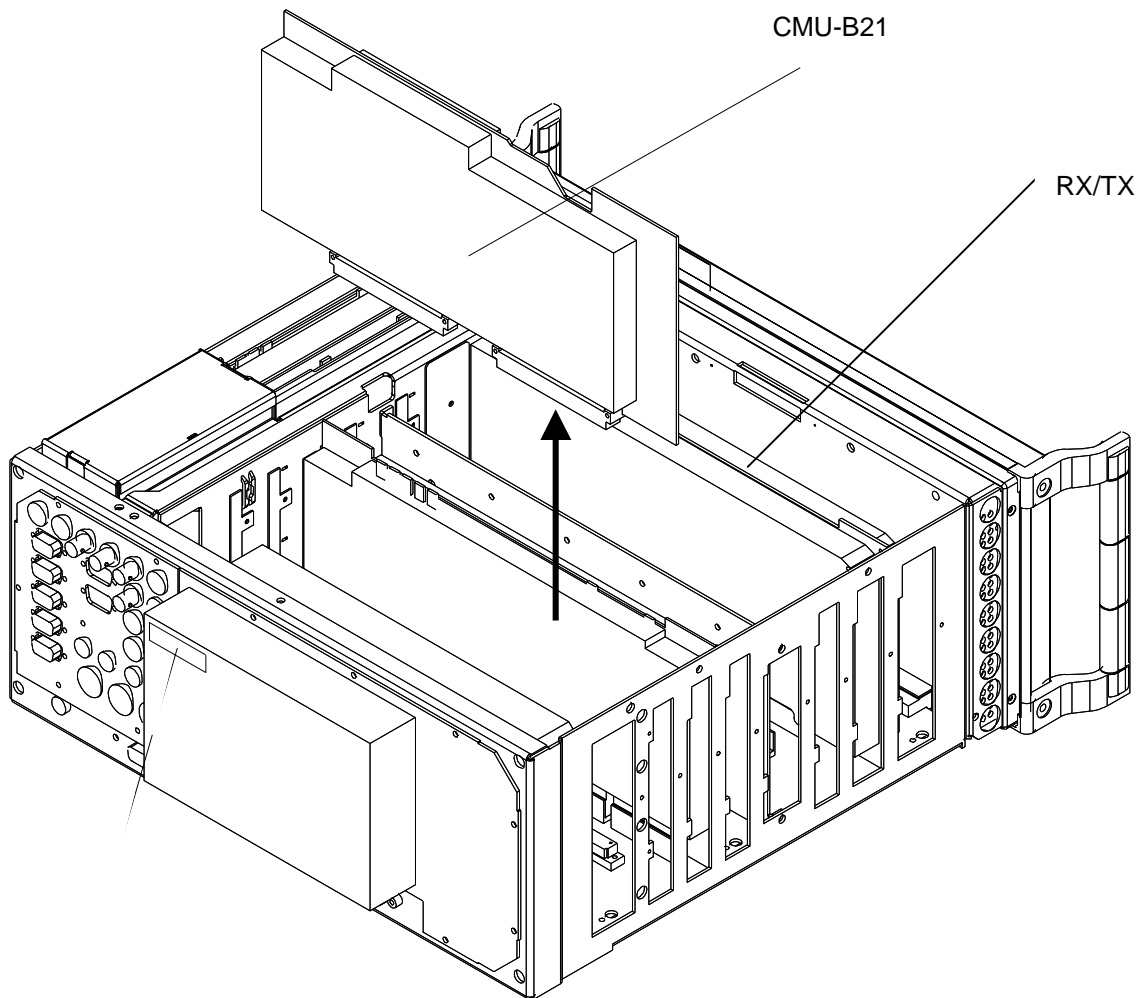

Fig. 3
- If the module in the second slot from the instrument front has the Order No. 1100.1404.02 or 1100.1733.02, replace it by the RX/TX module included in the modification kit. Caution: cables are to be disconnected at the top and the bottom of the instrument (Fig. 3).
- Remove module CMU-B21 in the seventh slot seen from the front (Fig. 3).
- Screw back the two screen covers and insert Link Handler into the unit (Fig.3 and 4).